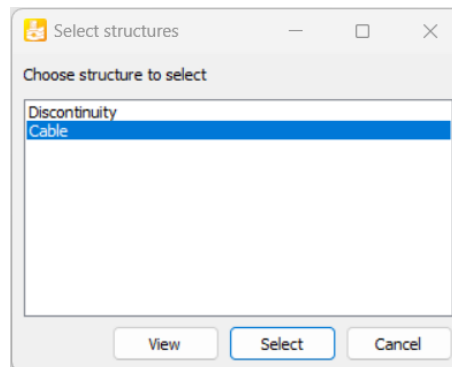

Figure 4-16: Select structures window
- 2 To inspect the resulting axial force in the cables, in the toolbar from the **Displayed step** button drop-down menu, go to Phase 6. Click on the **Drag a window to select structures** button  in the side toolbar and drag the mouse to define a rectangle encompassing all the cables. Select the **Cable** option in the appearing window, as shown in Figure 4-16 \(p. 87\).